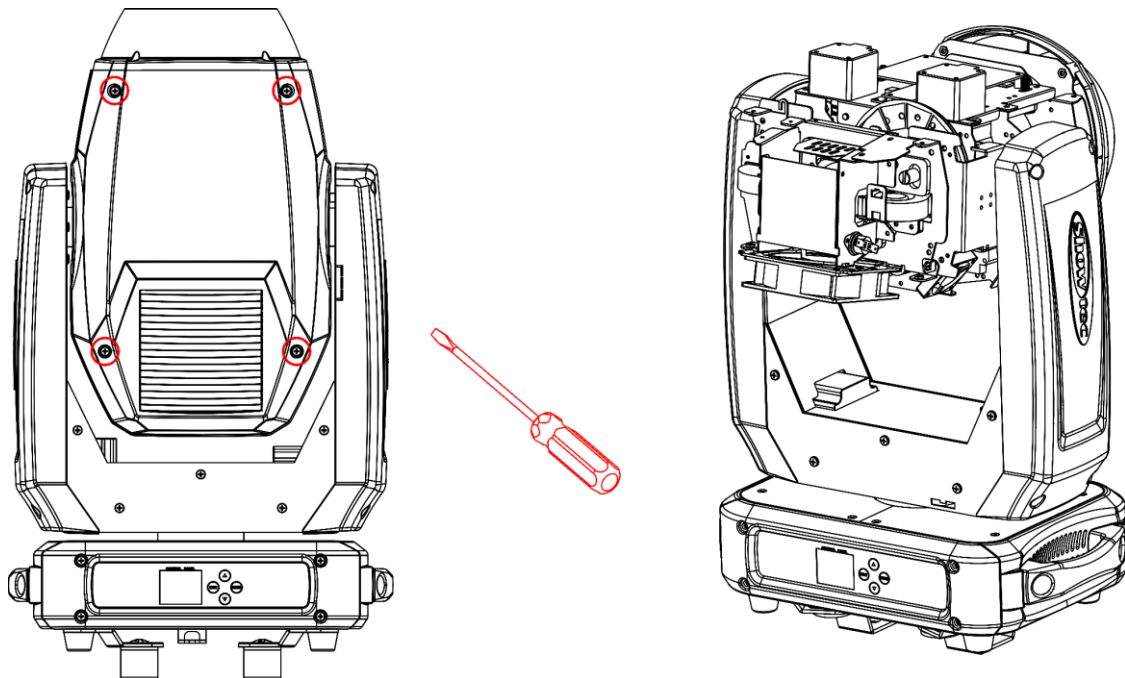

Fig. 18
- 02) Loosen the 8 fasteners on the housing and remove both covers (Fig. 18).